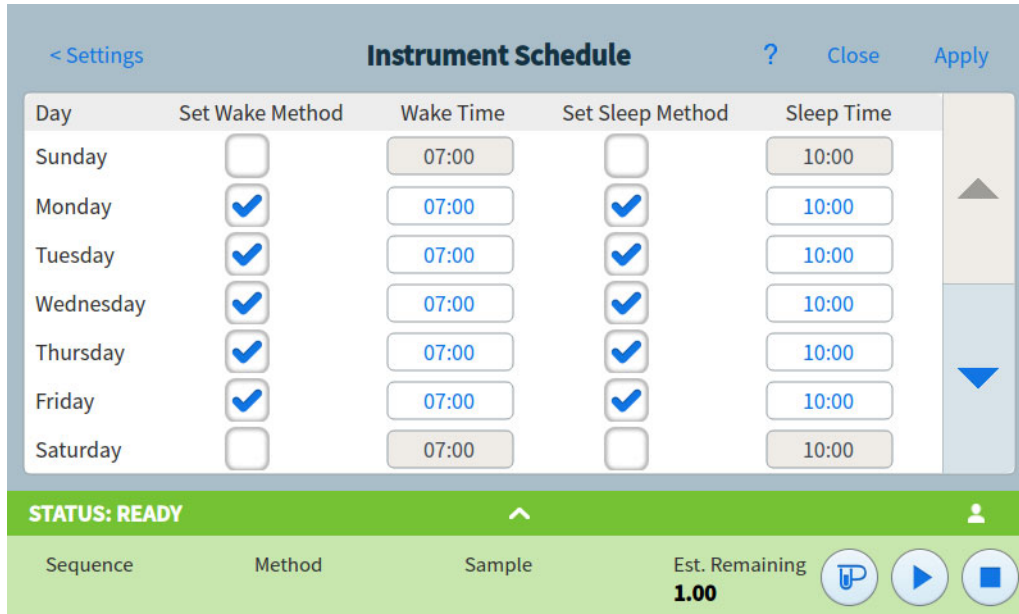

Figure 67. Instrument Schedule page
- 1 Select **Scheduler**. The Instrument Schedule page appears. See **Figure 67**.